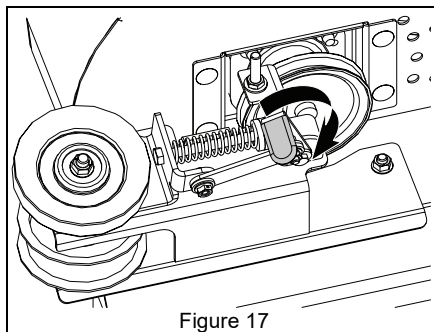

Figure 17
1. Rotate the idler assembly lever to the rear and down until it locks in the down position and fully retracts the idler pulley. See Figure 17.
6. Release tension from V-belt and remove V-belt from blower and deck spindle. See Figure 17.